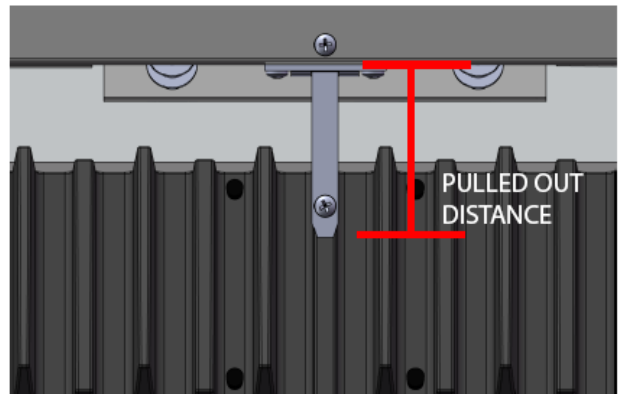

Figure 18 - Venting Termination Chart
- 🔥 The termination must fall within the chart shown in Figure 18
- 🔥 The termination must fall within the area shown in Figure 18.